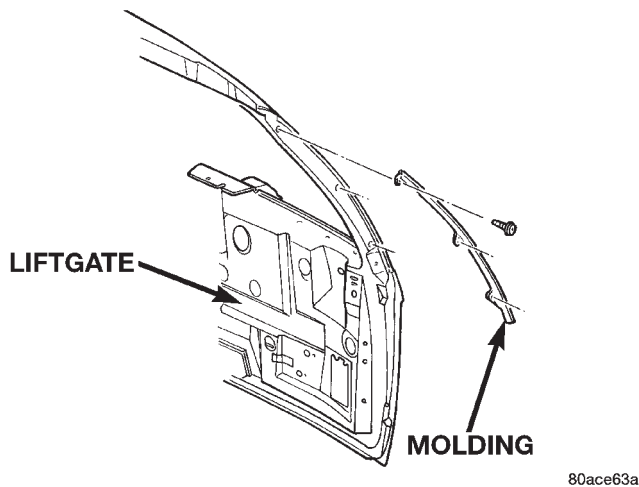

Fig. 78 Liftgate Molding—Typical
- (1) Remove screws attaching molding to liftgate (Fig. 78).
- (2) Separate molding from liftgate.
- (1) Position molding on liftgate.
- (2) Install screws attaching molding to liftgate (Fig. 78).